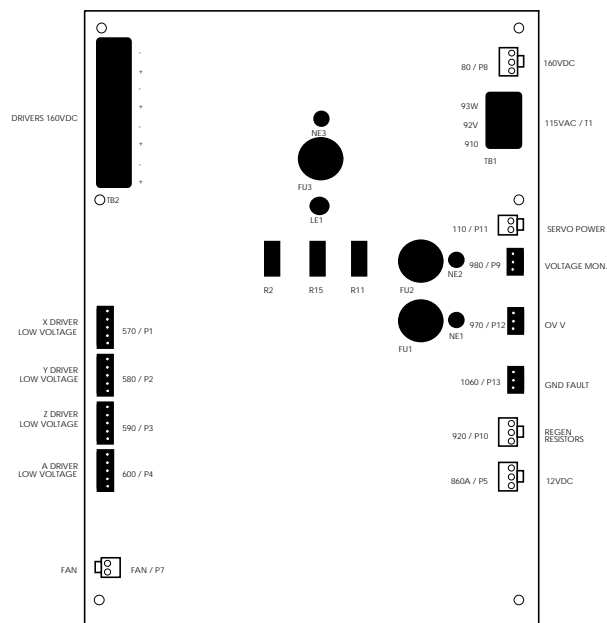

Fig. 4-4 SDIST board.
4. Disconnect all leads to the Servo Distribution (SDIST) board. Ensure all cables are clearly marked for reconnecting later. The following illustration (Fig. 4-4) shows all cable numbers and the locations on the SDIST board.
7. Reconnect all leads (previously removed) to their proper connection (refer to Fig. 4-4).